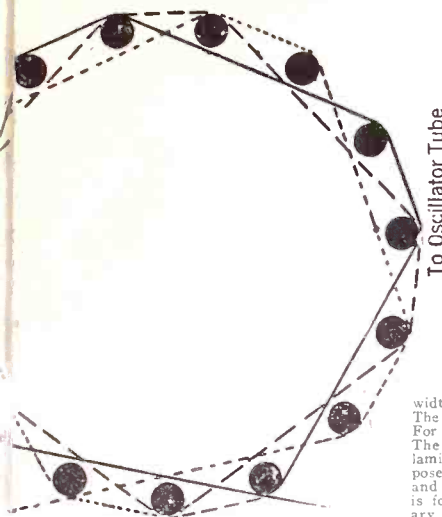

FIG. 206, a basketweave form template.
(1) Fig. 206 shows the template for a basketweave coil form. There are fifteen dowel sticks, each dowel being 5" long and 1/4" in diameter. These are placed in a form, which is circular. The diameter of this circle is 3". The sticks are held in place by 3/4" drilled holes, into which these sticks fit. The base is wood, 6x6". (2) When used as an RFT, and the secondary tuned by a .0005 mfd. variable condenser the turns are 10 wound for the primary and 45 for the secondary. The wire used is No. 22 DCC. Note that the "over two, under two" method of winding is used. The heavy line is the first turn, the long dashed line the second, the dotted the third, etc.